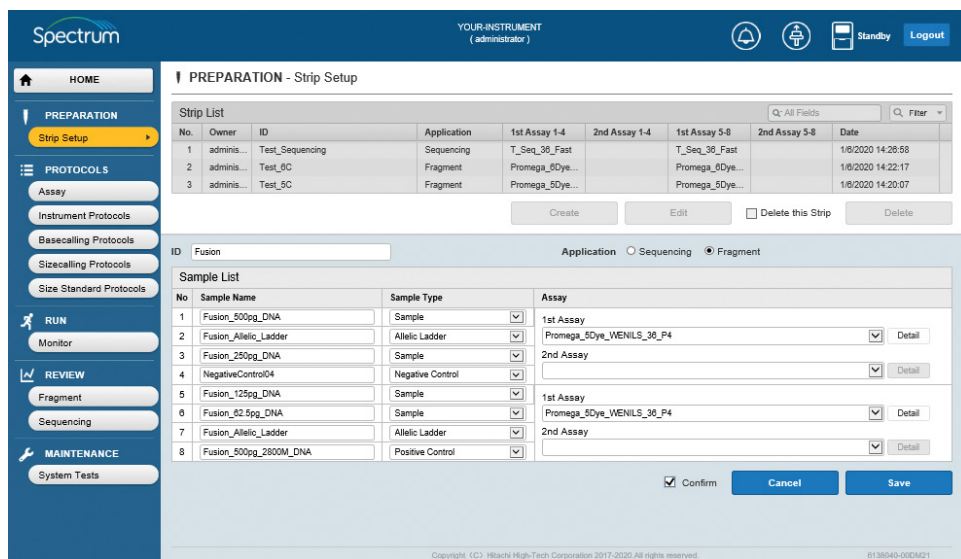

Figure 16. Saving a new strip setup.
- Check the **Confirm** box and select **Save** (Figure 16). If no errors are detected, "Normal End" in a green horizontal box will appear on the screen. If errors are detected, either "Invalid data entered" or "The value is out of range" will appear in a red horizontal box and the software will indicate where the error is occurring.